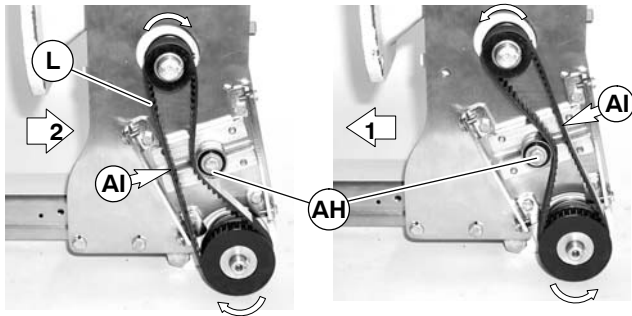
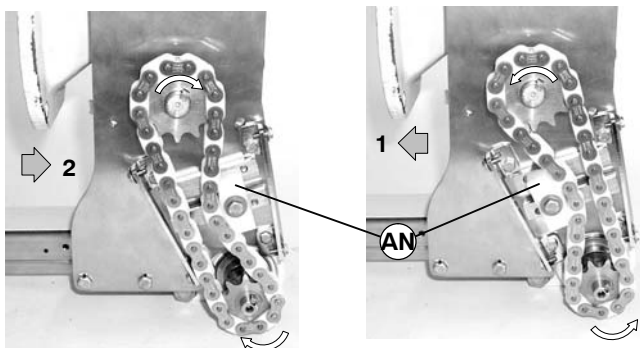

Figure 34
Figure 35
- Loosen belt tensioner (AH of Figure 34) or chain tensioner (AN of Figure 35).
- For a Timing Chain** – Slide chain tensioner (AN of Figure 35) to take up chain slack. Tighten chain tensioner screw to 92 in-lb (10.4 Nm).